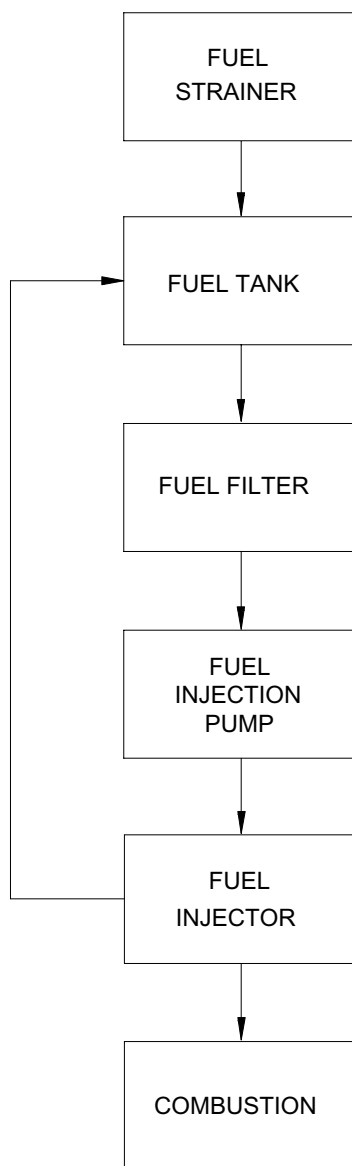

Figure 1-3. Generator Set Fuel System
1.17.1. The Generator Set Fuel System (Figure 1-3) provides filtered and pressurized diesel fuel to the diesel engine. It consists of a fuel tank with removable fuel fill strainer, fuel lines, fuel filter, fuel injection pump, and a fuel injector.